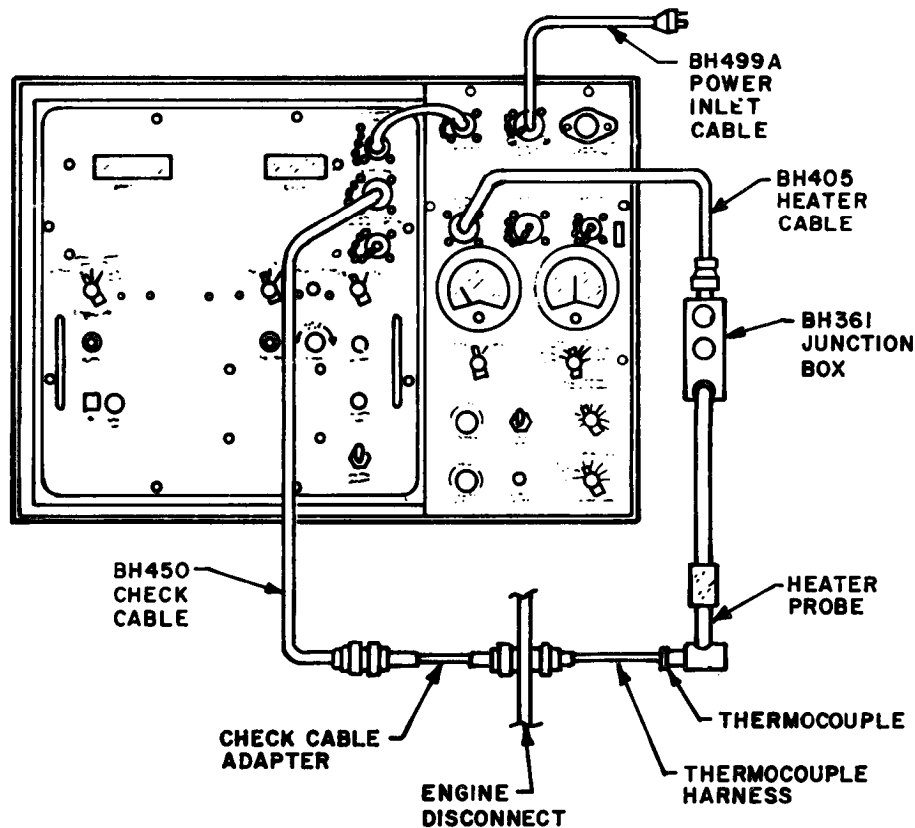

Figure 2-3. Thermocouple and Harness Check Setup.
a. Thermocouple and Harness Check. The thermocouple and harness check tests the aircraft thermocouple harness and the aircraft thermocouples by heating all the thermocouples and comparing the average output of the engine thermocouples with the average output of the heater probe thermocouples as read on the TEMP indicator. Refer to figure 2-3 and proceed as follows:
(1) Turn FUNCTION SELECT, STD DAY, and master power switches to OFF position and turn PROBE CONTROL fully counterclockwise.
(2) Connect BH405 heater cable to HEATER CABLE receptacle on tester and connect junction